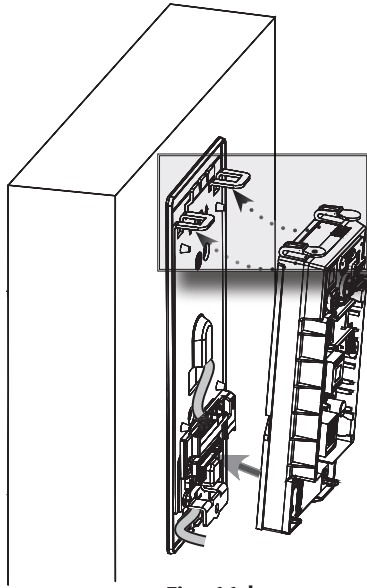
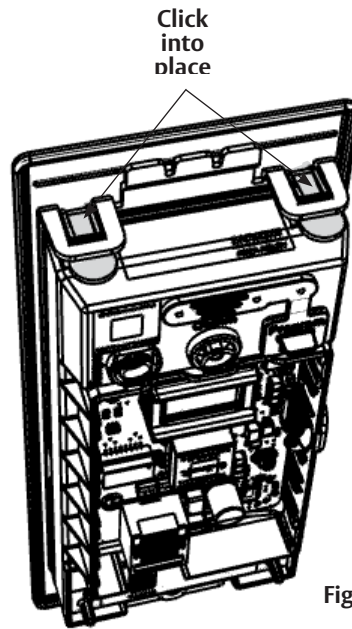

Fig. 11d
Fig. 11e
- a. Insert bottom tab of controller (ensure a clear path) into slot on mounting plate (Fig. 11d, e).
- b. Ensure proper alignment of board-to-board connectors (Fig. 11e) while pivoting controller toward door until two tabs on top click securely into place on mounting plate (Fig. 11d).